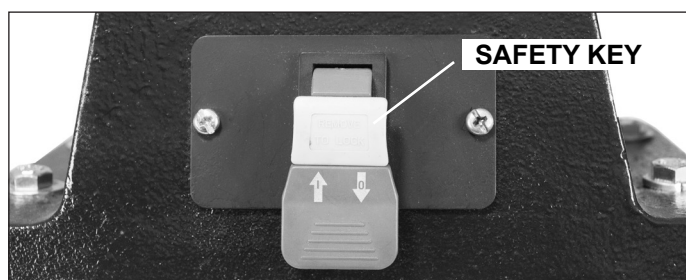

FIG. 14
1. To start the sander, the Power Switch must be in the "OFF" position, with the safety locking key installed in the switch. FIG. 14.